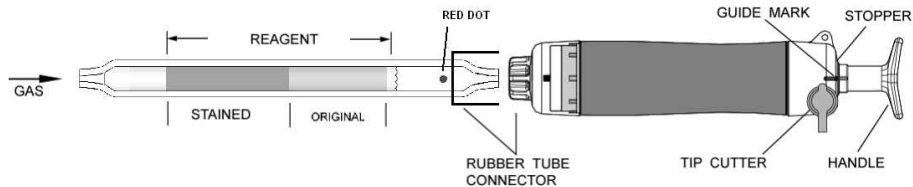

Fig.1
- ① Break both ends of the detector tube.
- ② Insert the detector tube into the aspirating pump securely as shown in Fig.1.
- ③ Align the guide marks on the shaft and stopper of the aspirating pump.
- ④ Pull the pump handle at a full stroke until it locks and wait for 1 minute or until the completion of sampling is confirmed with the flow indicator of the pump. (See descriptions about the flow indicator in the instruction manual of the pump.)
- ⑤ On completion of sampling, remove the detector tube from the pump and read the enclosed concentration with the concentration chart in the following way.
- ① Temperature; Correct the tube reading with enclosed temperature correction table.
- ② Humidity; No correction is necessary.